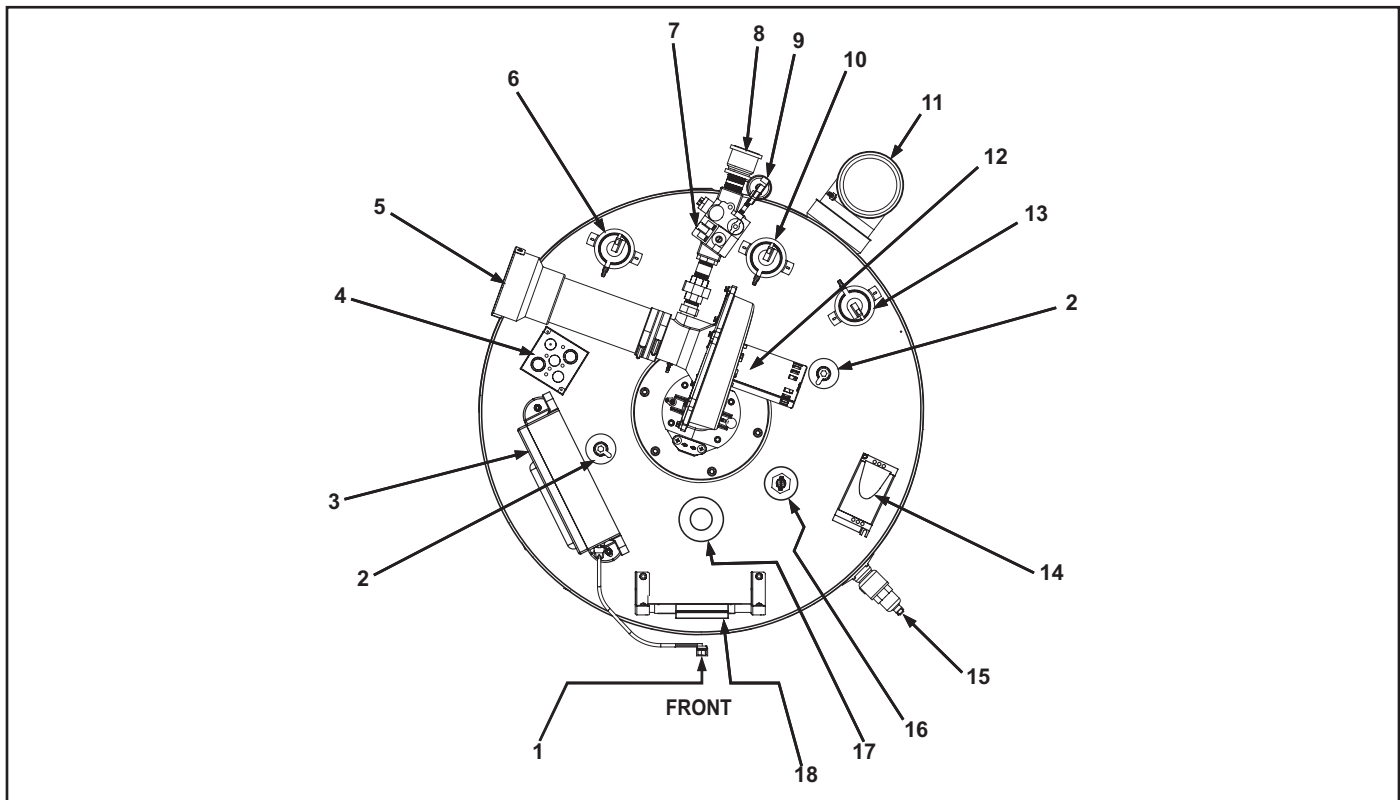

Figure 3
2. CCB enclosure - see Figure 3 on page 9 for description.
6. Low Gas Pressure switch, see description under Figure 3 on page 9. See Table 4 and the Gas Pressure Requirements on page 9.
9. VFD (variable frequency drive) blower motor drive - - see Figure 3 on page 9 for description.